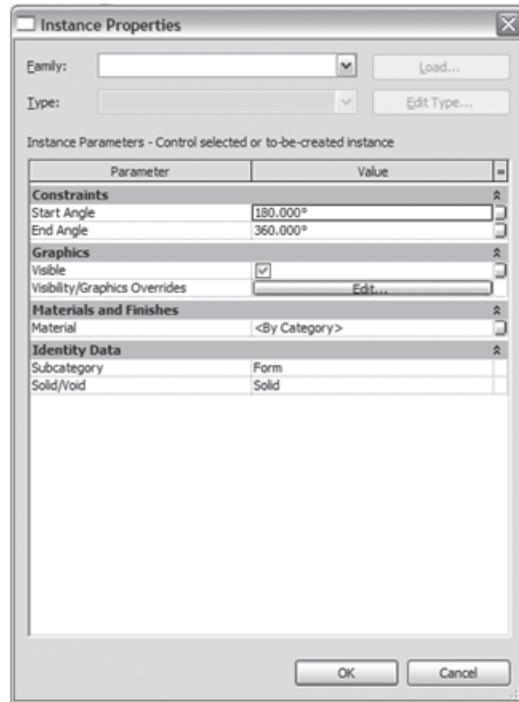

Figure 14.30
5. Select the top face of the form and open the Instance Properties dialog box. Change the End Angle value to 180, and click OK. This will give you a half-revolved form (Figure 14.30).